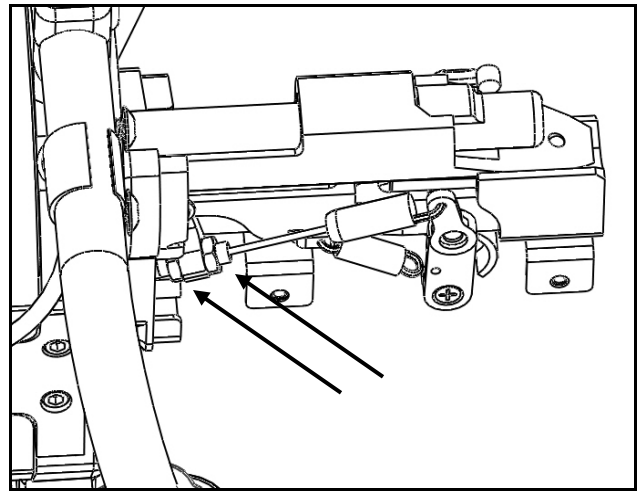

Figure 24 – Rough Adjustment Nuts
5. If the Cable Adjustment Wheel runs out of adjustment before the necessary trigger free travel is obtained, set it to the middle of its travel. Rough cable adjustments can be made using the two Rough Adjustment Nuts at the Cable Mount (see Figure 24). Loosening both nuts to adjust the position of the cable end fitting. Adjust the Rough Adjustment Nuts until the trigger travel is close to the desired position and then repeat Step 5 to finish adjusting the trigger.
8. If the Cable Adjustment Wheel for the Secondary Trigger runs out of adjustment before acceptable free travel is obtained, adjust the Rough Adjustment Nuts for the Secondary Trigger Cable using the same procedure described in Step 5 and Figure 24.